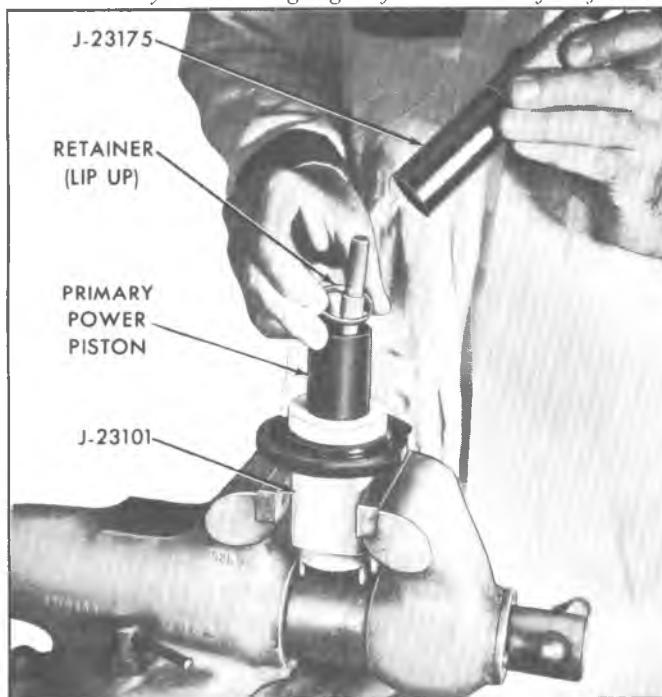
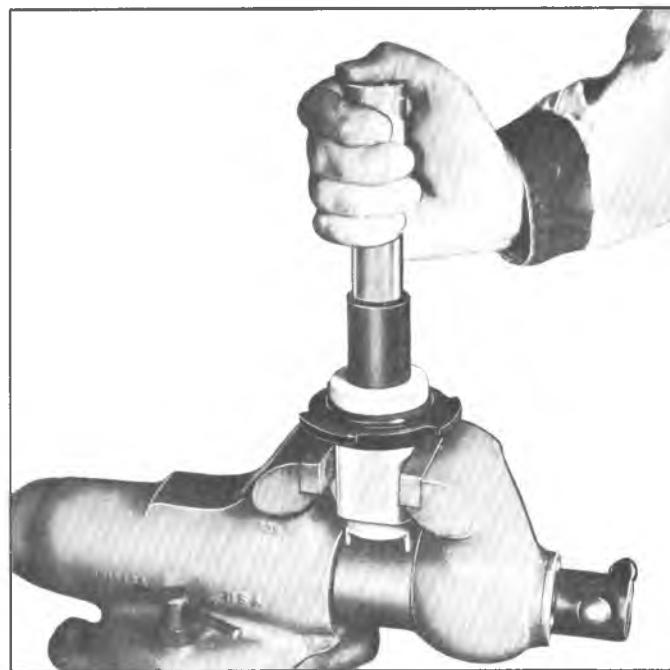

Fig. 11B-Installing Floating Control Valve Retainer with Installer J-23175
Fig. 12B-Seating Floating Control Valve Assembly with Installer J-23175
4. Place the I.D. of the floating control valve retainer on the O.D. of floating control valve Retainer Installer J-23175. Place over the push rod so that the closed side of the retainer seats on the floating control valve (fig. 11B). With Installer J-23175, manually press the retainer and floating control valve assembly to seat in the primary power piston tube (fig. 12B).